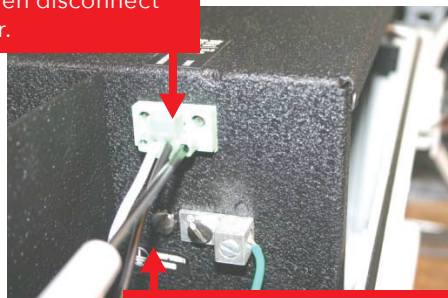

Figure 1. DISCONNECTING THE ETHERNET CABLE, THE POWER CABLE CONNECTOR, AND THE GROUND WIRE.
3. Remove the orange Ethernet cable on the left by disconnecting both ends, then removing it. Set aside for re-use. Remove the power cable connector on the right by loosening the captive screw on each end of the green connector, then unplugging the connector. Disconnect the ground wire by loosening the ground wire retaining screw, then carefully removing the ground wire. Refer to Figure 1.